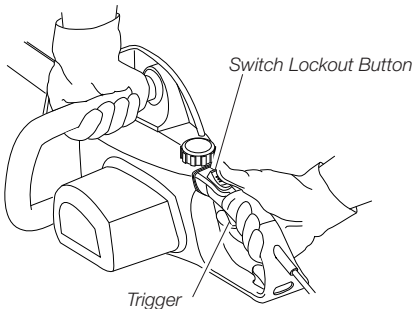

Figure 6 - Lockout Button and Trigger Location
3. Use both hands to grip saw. Always use left hand to grip front handle and right hand to grip rear handle. Use firm grip. Thumbs and fingers must wrap around saw handles (see Figure 6).
5. When ready to make a cut, push the lockout button completely forward with the right thumb and squeeze the trigger (see Figure 6). This will turn saw on. Releasing trigger will turn saw off. Make sure saw is running at full speed before starting a cut.